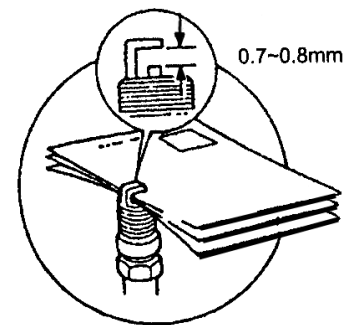

FIGURE 16
- 3) Measure the electrodes clearance. See Fig.16. The spark plug electrode clearance should be between 0.7-0.8mm. If the clearance exceeds 0.8mm, replace the spark plug with an LD F7TC or equivalent (NGK BP6ES, Champion N9Y).